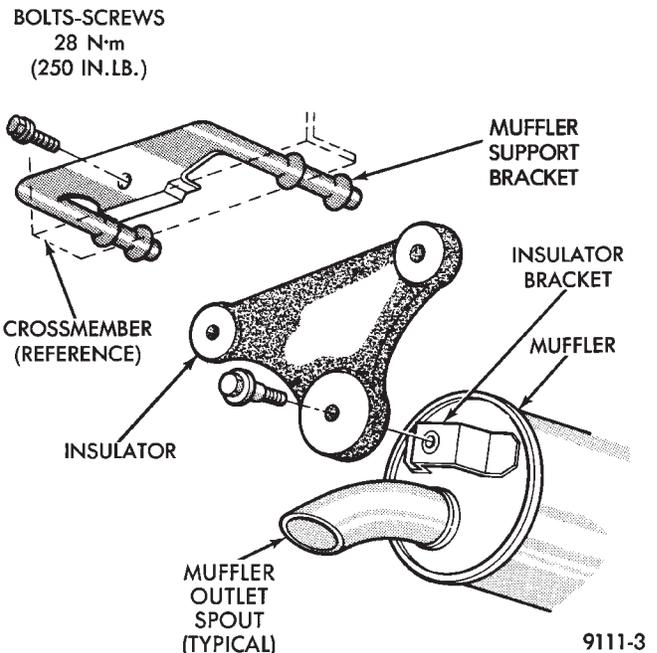

Fig. 6 Insulator Tail Pipe and Muffler Support
- (3) Remove clamps and supports (Figs. 6, 7, 8, and 9) from exhaust system to permit alignment of parts during assembly.
- (4) When removing tailpipe, raise rear of vehicle to relieve body weight from rear springs to provide clearance between pipe and rear axle parts.
- (5) Clean ends of pipes and/or muffler to assure mating of all parts. Discard broken or worn insulators, rusted clamps, supports and attaching parts.